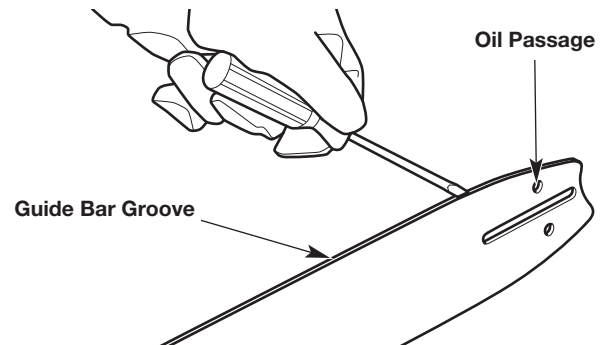
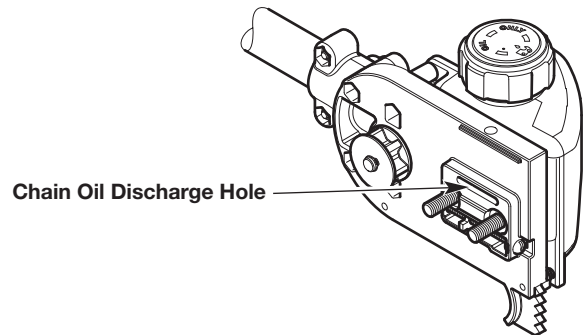

Fig. 21
Fig. 22
2. Clean the guide bar groove and oil passages whenever the saw chain is removed, when the unit has been used heavily or when the saw chain appears dirty. Use a screwdriver, putty knife, wire brush or similar instrument to remove debris from the guide bar groove (Fig. 21). Use a small, soft wire to remove any debris from the chain oil discharge hole (Fig. 22).